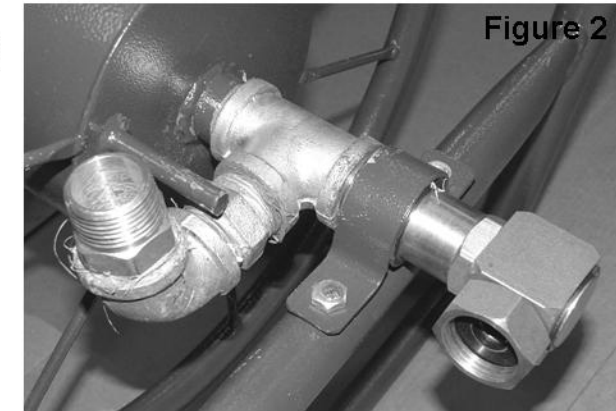

Figure 2
2. Take Spool (B) and align the elbow/galvanized tee (pre-assembled) side of the spool with preassembled U-bushing. Insert the brass swivel (J) through the U-bushing and screw into the galvanized tee. Tighten using a wrench. Be sure to use Teflon/Plumber's tape on the threads. See Figure 2.